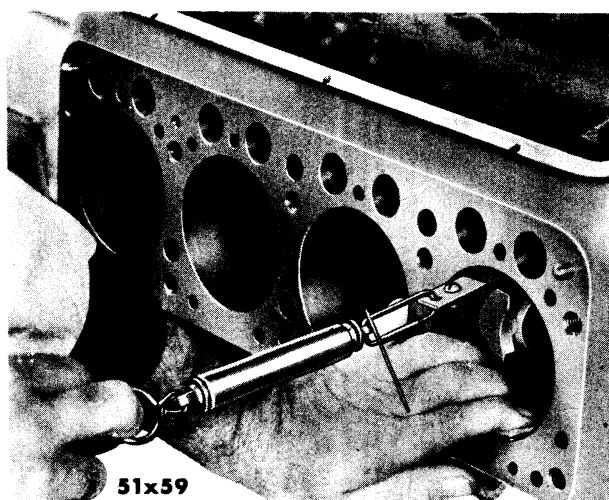

Fig. 110—Fitting Pistons To The Cylinder Bore
- (1) Starting with the Number one cylinder, coat the bore very lightly with SAE 10W engine oil. Insert the piston in the bore, upside down, with the feeler stock between the piston (thrust face) and the cylinder wall.
- (2) Holding the piston, draw the feeler stock out straight with the spring scale, as shown in Figure 110. The amount of pull necessary to withdraw feeler stock should be from 5 to 12 pounds.
- (3) Fit remaining pistons in like manner.